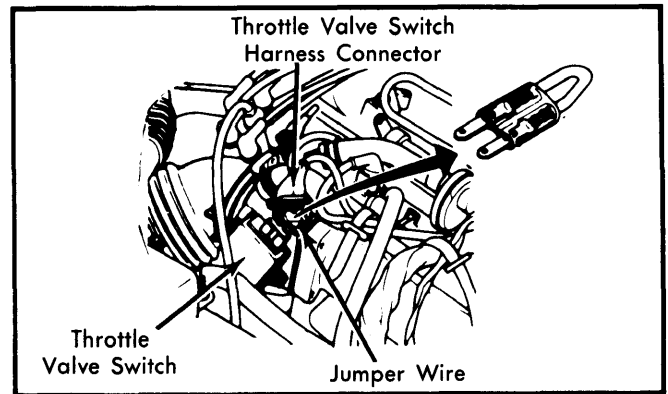

Fig. 2 Schematic of Jumper Wire Connection at Throttle Valve Switch Harness (280ZX Shown - 810 Similar)
- 1) Turn ignition "OFF". Insert CO probe more than 16" (406 mm) into tail pipe. Disconnect throttle valve switch harness connector and connect a jumper wire between harness connector terminal No. 24 and No. 30. See Fig. 2.